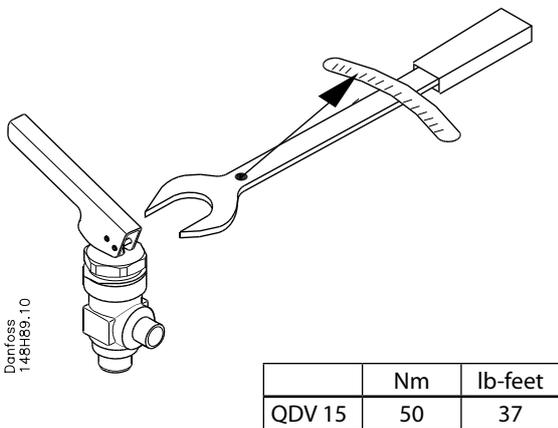

Fig. 4
Tighten the bonnet with a torque wrench, to the values indicated in the table (fig. 4).
The bonnet should be removed before welding (fig. 4) to prevent damage to the O-ring between the valve body and bonnet, as well as the Teflon cone ring in the valve seat.
**Replacement of the O-ring between the bonnet and the valve body (fig. 4):**